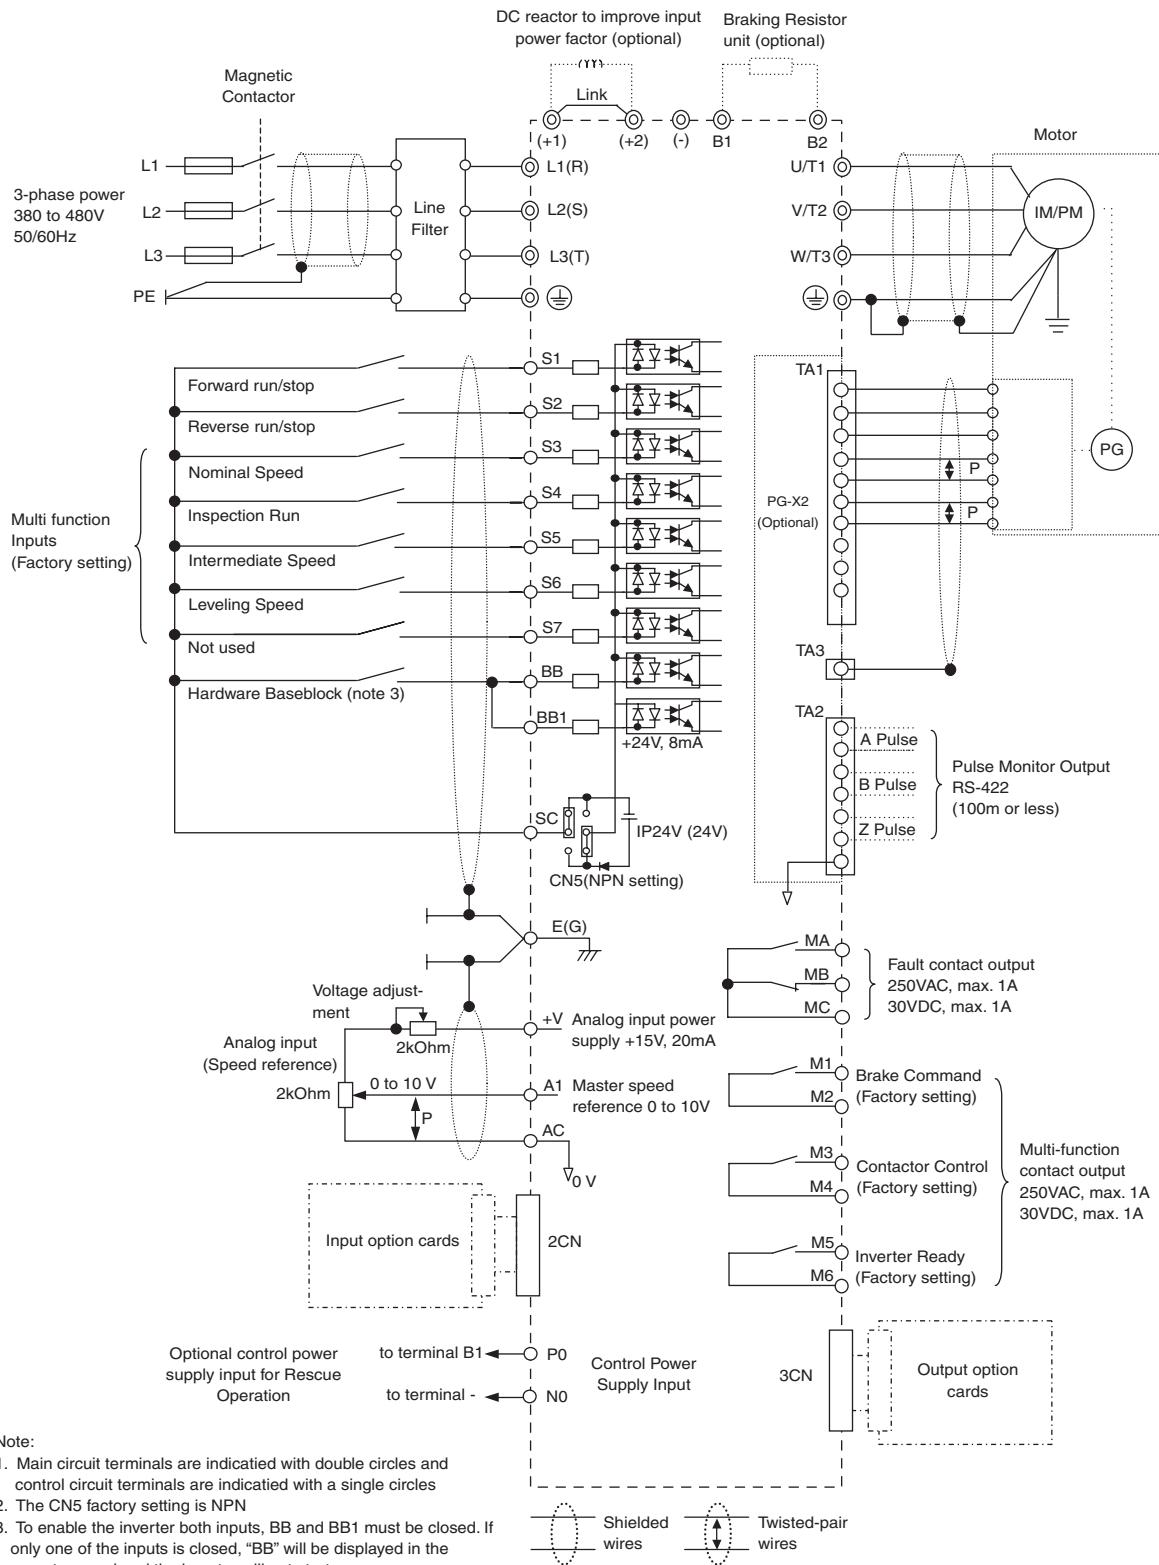

Fig 4 Wiring Diagram
- In Fig 4 the wiring of the digital inputs S1 to S7 and BB, BB1 is shown for the connection of contacts or NPN transistors (0V common and sinking mode). This is the default setting.